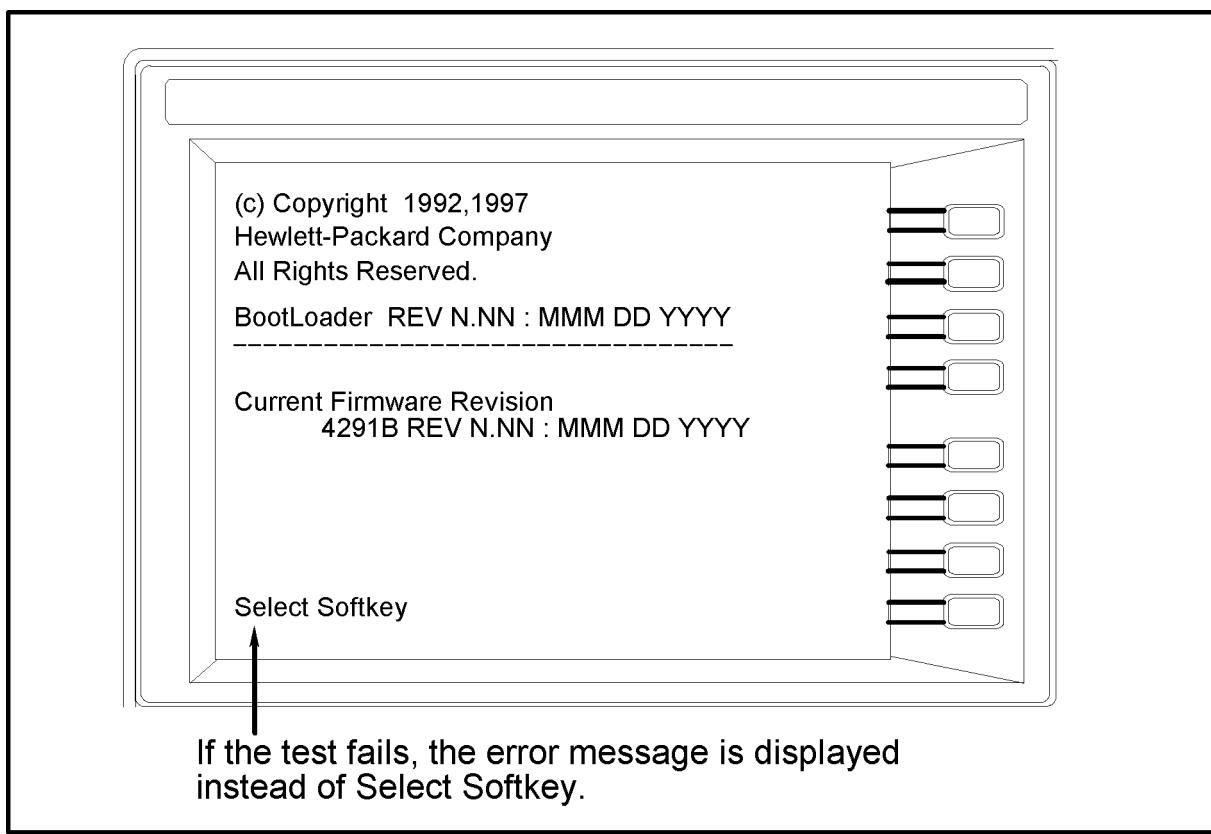

Figure 6-3. Bootloader Display
- c. Wait for the display shown in Figure 6-3 appears on the LCD.
- If an error message is displayed or the display shown in Figure 6-3 does not appear, the A1 CPU is probably faulty. Replace the A1 CPU.